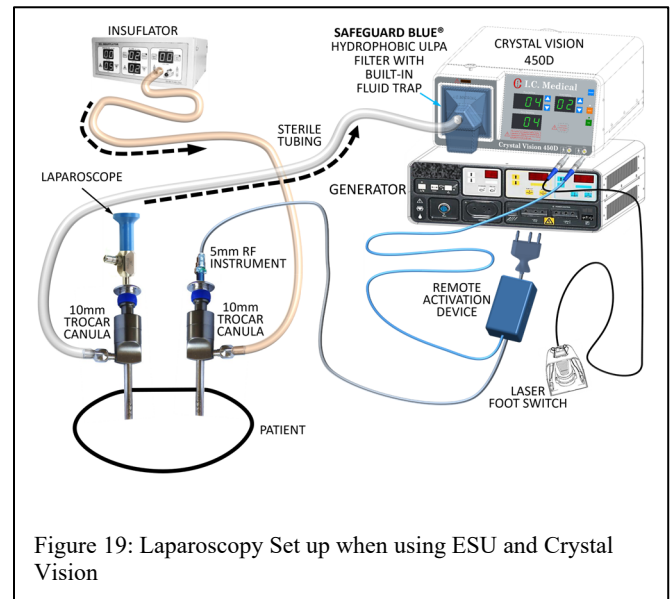

Figure 19: Laparoscopy Set up when using ESU and Crystal Vision
5. The insufflator FLOW should be set to Maximum, and the pressure should be set to surgeon's needs. Refer to Figure 19.